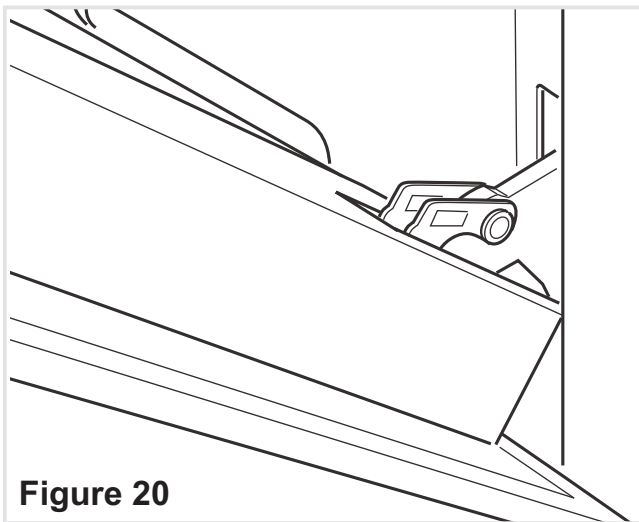

Figure 20
1. Make sure the door is locked open (see fig. 20).